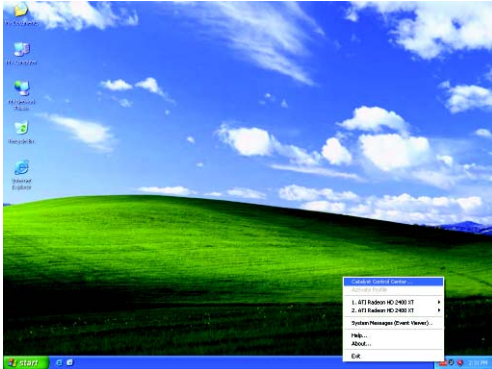

Figure 1
After installation of the display driver, you will find an **ATI Catalyst® Control Center** icon  on the taskbar's status area. The **ATI Catalyst® Control Center** is used to configure all your graphics card settings. Right-click the icon to enter the **ATI Catalyst® Control Center** (refer to Figure 1). Or you can right-click on the desktop and select **ATI CATALYST(R) Control Center** (refer to Figure 2).